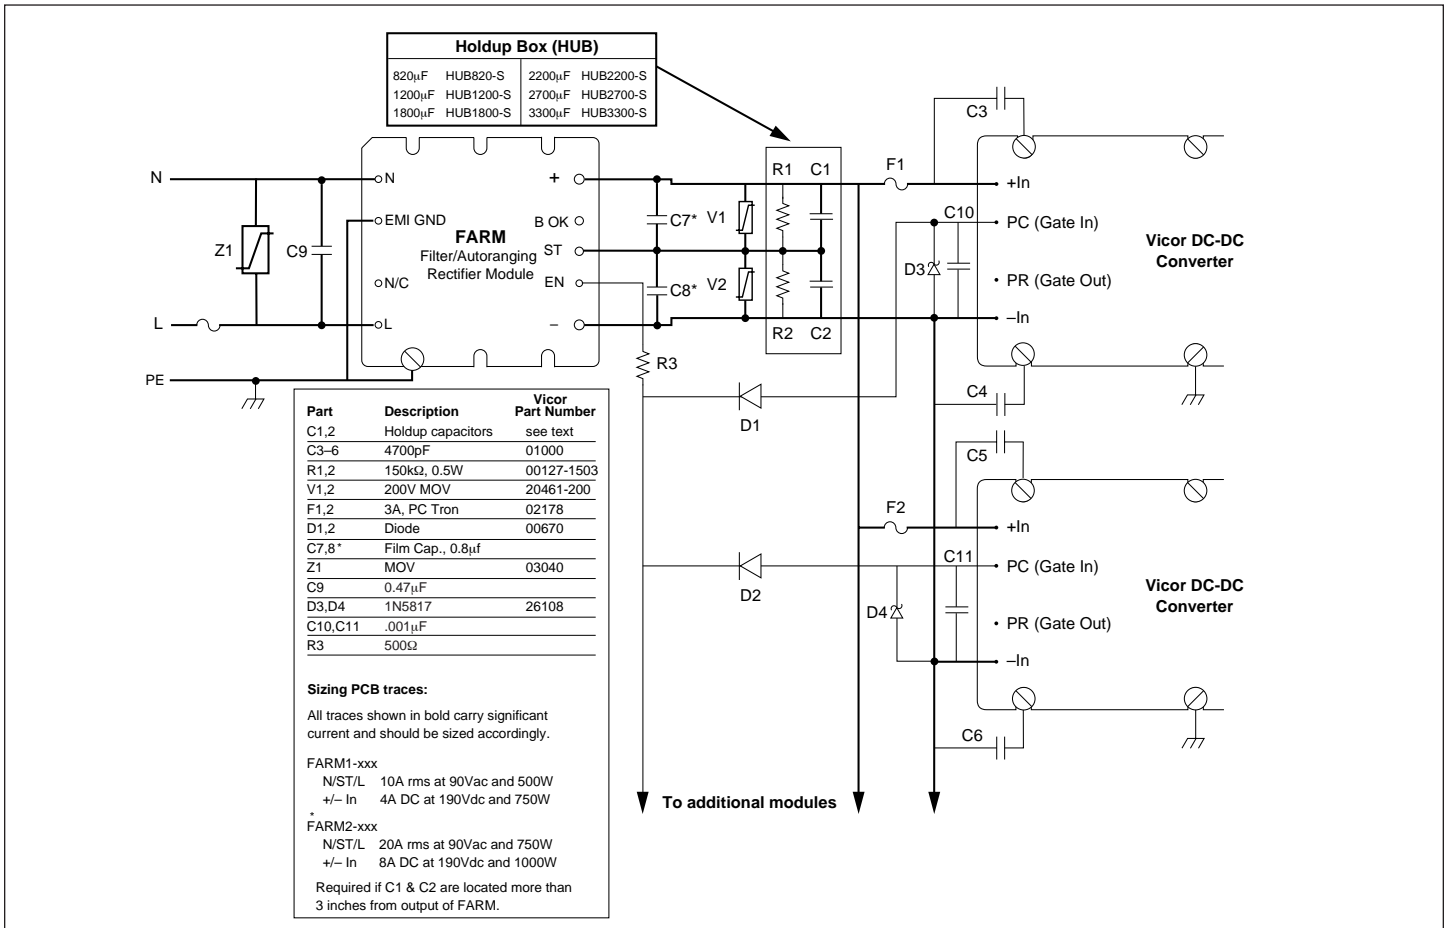

Figure 9—Converter connections
Strap (ST) Pin. In addition to input and output power pin connections, it is necessary to connect the Strap pin to the center junction of the series hold-up capacitors (C1, C2, see Fig. 9) for proper (autoranging) operation. Gas tubes V1 and V2 provide capacitor protection. The bleeder resistors (R1, R2, see Fig. 9) discharge the hold-up capacitors when power is switched off. Capacitors C7 and C8 are recommended if the holdup capacitors are located more than 3 inches from the FARM output pins.
It should be noted that the series combination ($C1, C2$, see Fig. 9) requires each capacitor to be twice the calculated value, but the required voltage rating of each capacitor is reduced to 200V.